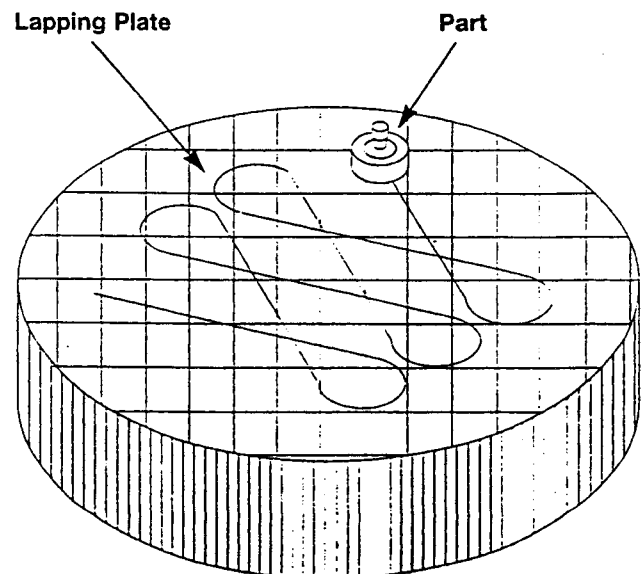

Figure 4.1
2. Select the appropriate lapping compound. When lapping the disc, operate with a light figure eight motion over entire block surface. In this way complete contact will be made (Figure 4.1).